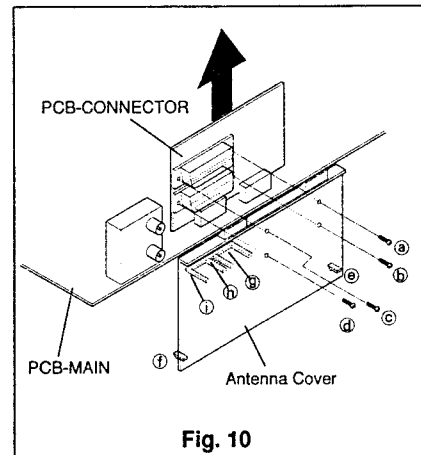

Fig. 10
- (2) Remove four screws (a), (b), (c) and (d), unfasten five catches (e)~(i) on the Antenna Cover as shown in Fig.10, and remove the Antenna Cover.
- (3) Raise the PCB-CONNECTOR upward to remove it.